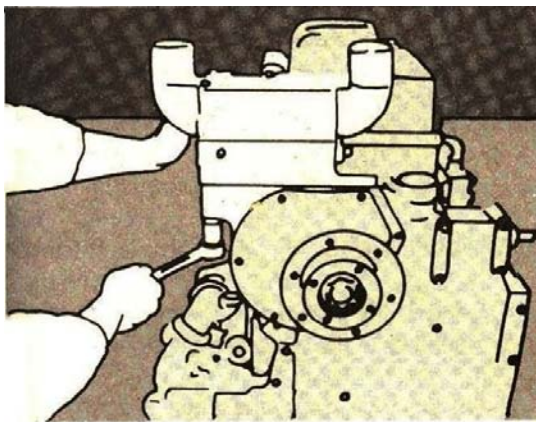

Fig. 14-82, Install the thermostat housing
Note: The thermostat housing is secured to the gear housing front cover with two (2) capscrews from the top and two (2) capscrews through the front cover into a bracket mounted to the rear of the thermostat housing. See Fig. 14-82.